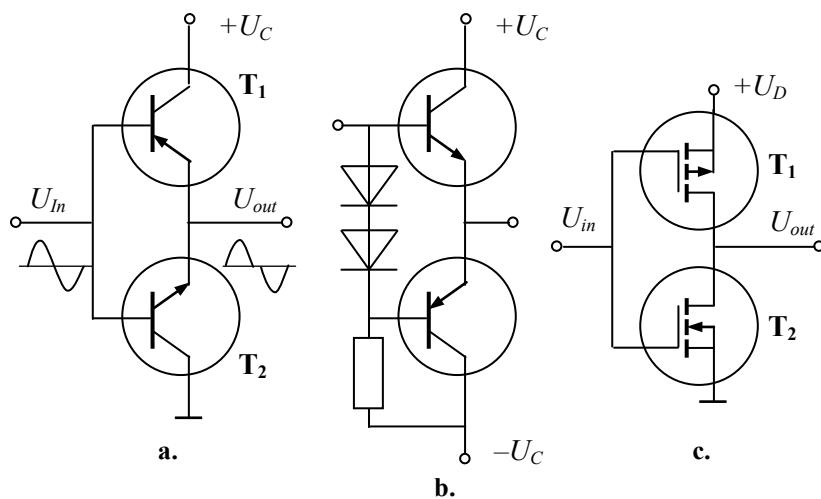

Fig. 2.53
**Push-pull amplifiers.** When a transistor is biased for the class B mode of operation, it clips off half a cycle of the input signal. To reduce distortion, two transistors are used in *push-pull* arrangement that is the pair of identical transistors connected so that the signal can be introduced across. Fig. 2.53,a shows a way to connect a class B transistors by linking an *npn* emitter follower to *pnp* emitter follower. The load is connected to the emitters of the transistors, which operate as repeaters.
To avoid distortion, diodes are used, which provide the class AB operation in the balanced supplied circuit, as shown in Fig. 2.53,b.
Connecting the *p*-channel and *n*-channel MOSFETs forms the basic bilateral switch shown in Fig. 2.53,c. This combination reduces the forward resistance, improves linearity, and also produces a resistance, which varies much less with the input voltage. The circuit built on the